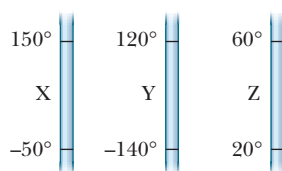

Figure 18-24 Question 2.
**2** Figure 18-24 shows three linear temperature scales, with the freezing and boiling points of water indicated. Rank the three scales according to the size of one degree on them, greatest first.